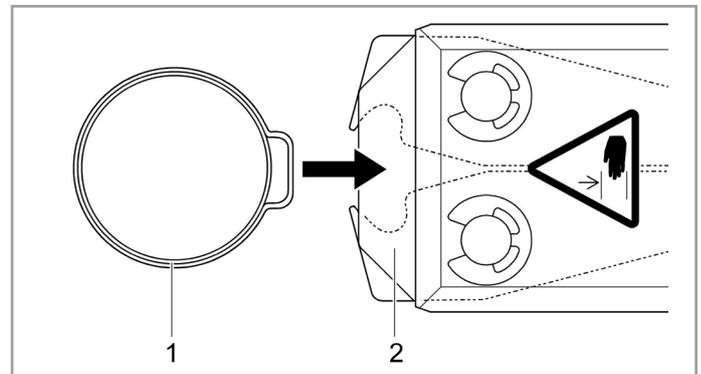
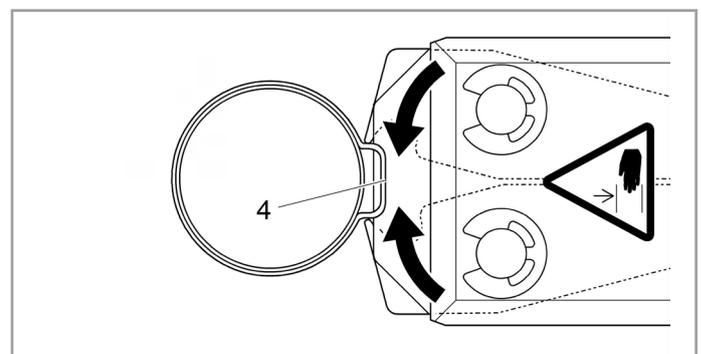

Fig. 5 *Insert clamp*
Fig. 7 *The ear is closed*
1. Insert the ear of an OETIKER clamp (Fig. 5/1) into the clamping area on the pincer head (Fig. 5/2).
Closure is initiated and the ear (Fig. 7/4) of the clamp is closed.
If special heads are used – e.g. for closing OETIKER Low Profile Clamps – the details will differ from those shown in the diagrams in Fig. 5 to Fig. 7.